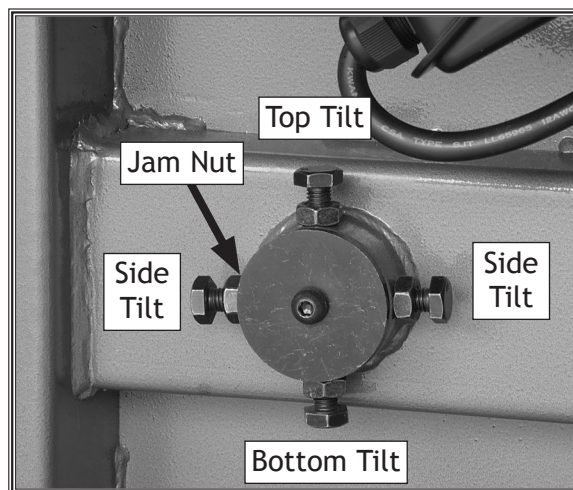

Figure 77. Lower wheel adjustment hub.
2. Loosen the jam nuts on the lower wheel adjustment hub (see Figure 77).